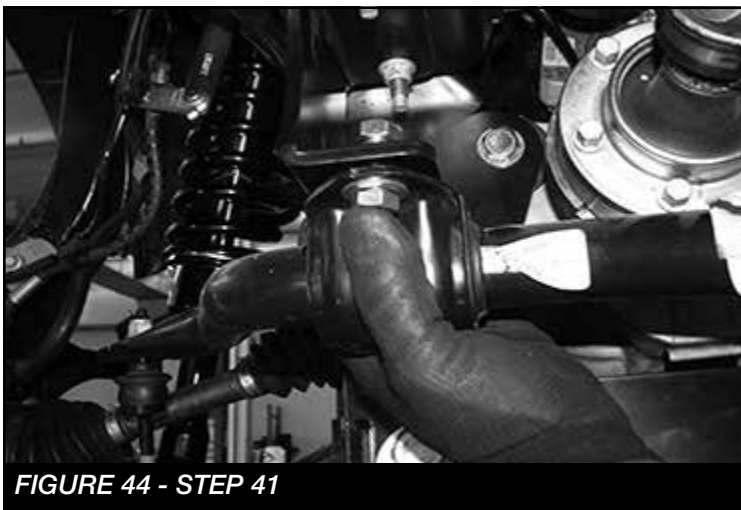

**FIGURE 42 - STEP 40**
40. Reinstall the original brake rotor, followed by the brake caliper. Use a small amount of the supplied thread lock compound on the caliper bolts and torque to 160 ft-lbs. **SEE FIGURE 42**